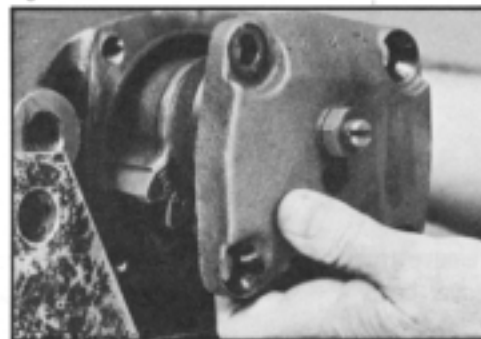

Figure 52
9. Remove side cover (43) and shaft assembly (51) as a unit from gear assembly. SEE FIGURE 52. Remove and discard seal ring (43A).